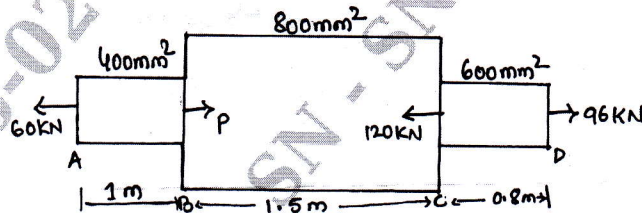

Fig Q1(c)
- c. A steel bar ABCD of varying sections is subjected to the axial forces as shown in Fig Q1(c), Find the value of 'P' necessary for equilibrium. If $E = 210\text{kN/mm}^2$ determine : i) Stress in various segment ii) Total Elongation of bar iii) Total strain in the bar